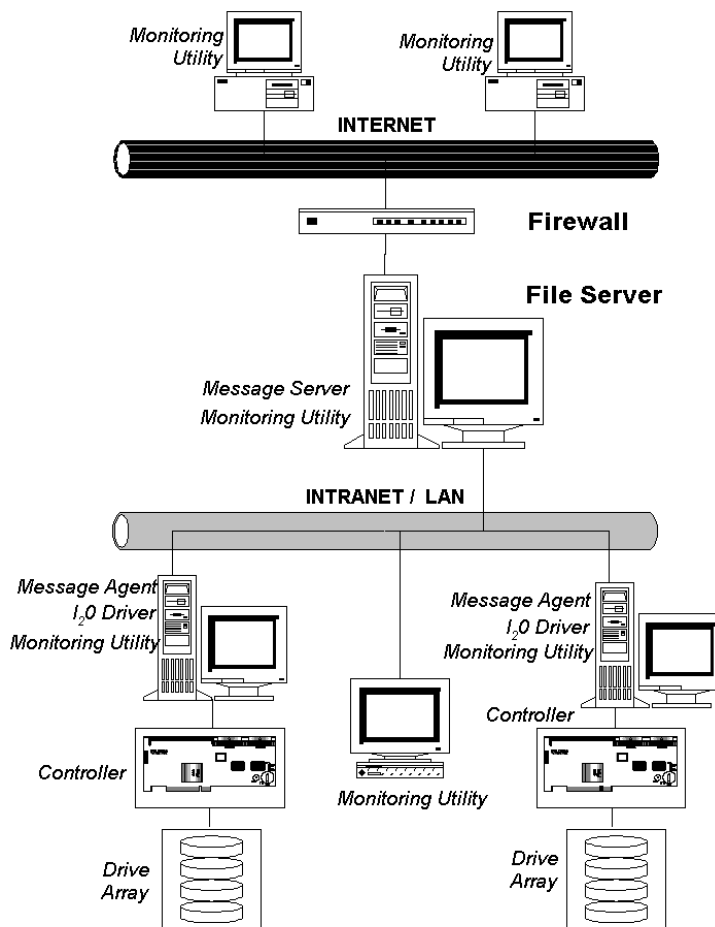

Figure 17: Typical SuperCheck Component Installation
A typical installation of the SuperCheck software components on a network might look like Figure 17 on page 32. The major elements of this network are (from top to bottom):
- (1) **SuperCheck Utility** - The SuperCheck Monitoring Utility (the GUI that you will be using) may be installed on any system element with a TCP/IP connection where you want to perform monitoring. As shown in Figure 17, the SuperCheck utility is installed on the main File Server, on both SuperTrak66 stations, on two remote systems over the Internet, and on one internal system. *NOTE: For security reasons, array maintenance features can only be performed at the actual server location of a SuperTrak66 array and are unavailable at all other consoles.*
- (2) **Message Server** - The Message Server software component serves as the main link between all SuperTrak arrays residing on the network, the internal Intranet/LAN (via TCP/IP protocols), and remote monitoring stations communicating via the Internet. For remote Internet monitoring, the Message Server component must be installed on a machine with a unique IP address that is visible to the Internet (as in our example). From its central communications position, the Message Server software interfaces with all SuperTrak arrays located on the LAN and allows all system elements (with the GUI installed) to see those arrays. The File Server where the Message Server software is installed may or may not house a SuperTrak array. In our example on Figure 17, it does not. One reason may be that the File Server is not running Windows NT 4.0.
- (3) **Message Agent** - The Message Agent software component must be installed on each file server that will house a SuperTrak array. The Message Agent communicates with both the Message Server and the SuperTrak66 controller. Installing the Message Agent automatically installs the I₂O device driver. *NOTE: All stations containing SuperTrak66 must be running Windows NT 4.0. Maintenance on SuperTrak arrays can be performed only using these stations.*
- (4) **I₂O Device Driver** - Installed automatically with the Message Agent, the driver allows the station to communicate directly between the Promise SuperTrak controller card and Windows NT. This permits Windows NT to recognize RAID arrays attached to it.